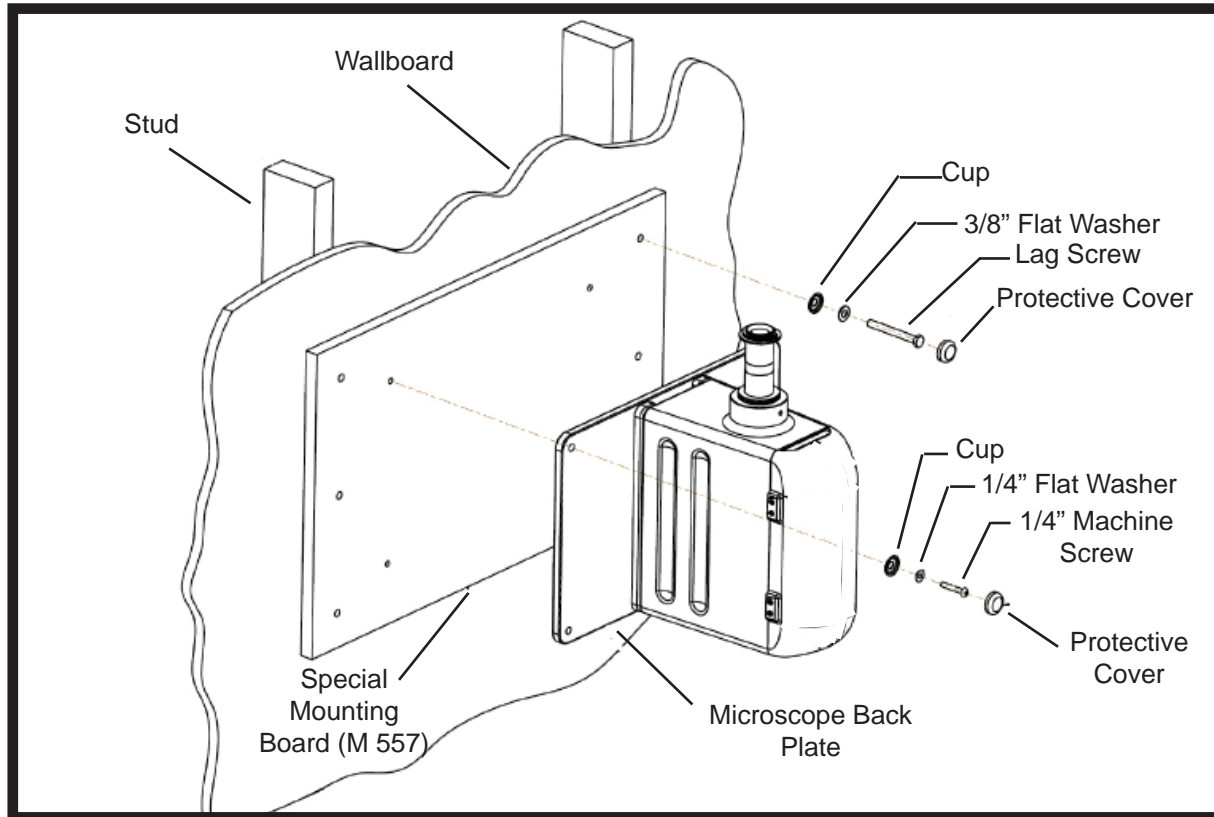
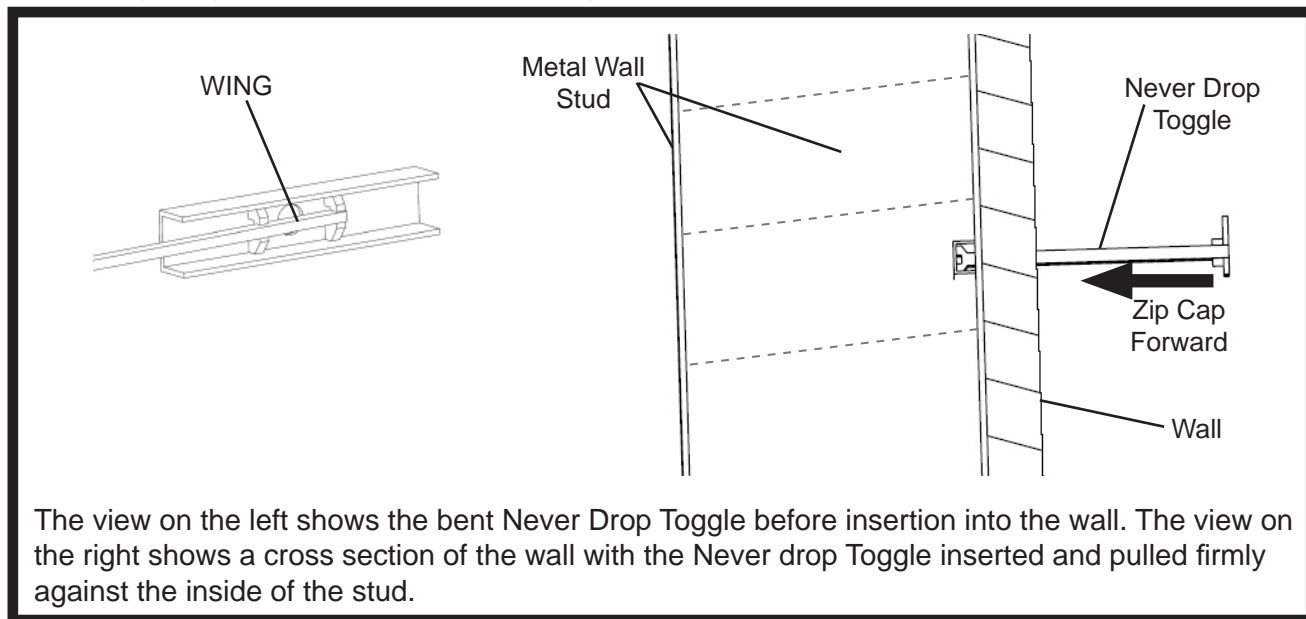

Figure 4-4. Back Plate Spacing on 24" Wooden Studs
Figure 4-5. Never Drop Toggle Insertion
4. Drill a 1/2" (12.5 mm) hole into the wall and stud as marked. To easily do this, drill a progressively larger hole beginning with one (1) 1/8" (3 mm) pilot hole. Next, use a 1/4" (6 mm) drill bit to make the hole larger and finish with a 1/2" (12.5 mm) drill bit.
5. Hold the wing of the Never Drop Toggle flat against the plastic straps, slide through the drilled hole, and pull the plastic until the wing is firmly against the inside of the stud. Slide the plastic cap along the straps until the wall is clamped between the wing and cap, and snap off the straps. Refer to Figure 4-5.
6. Place a flat washer and cup over the 2-1/2" machine screw (provided) and insert the screw through the Wall Mount Board into the Never Drop Toggle. Tighten until snug to hold the Wall Mount Board in place for leveling and marking the remaining seven (7) holes.
7. Place a level across the top and one side of the Wall Mount Board and adjust until level in both directions. With the Wall Mount Board held in place, mark the positions of the remaining seven (7) holes, ensuring that the marks are in the center of the studs. Refer to Step 3.
8. Remove the Wall Mount Board and repeat steps four (4) and five (5) for drilling the holes and placing the Never Drop Toggles in the studs as marked above.
13. Snap the twelve (12) protective covers over all the cups when finished.
If the wall studs are placed on 24" (61.0 cm) centers, it will be necessary to obtain a Special Mounting Board (Global Surgical™ Part Number M 557). The Standard Mounting Plate then mounts to the holes provided on the Special Mounting Board. See Figure 4-4.
3. Using the Special Mounting Board as a guide, mark the positions of the six (6) mounting holes on the wall, ensuring the marks are centered on the studs (See Section 4.2.2. Step 3) and the Special Mounting Board is level both horizontally and vertically. It is recommended that a razor blade or other small, sharp object be used to verify sides of wall stud. This will ensure center is correctly marked. Refer to Figure 4-4.
4. Drill six (6) 1/2" (12.5 mm) holes into the wall and studs as marked. To easily do this, drill progressively larger holes beginning with one (1) 1/8" (3 mm) pilot hole. Next, use the 1/4" (6 mm) drill bit to make the holes larger and finish with the 1/2" (12.5 mm) drill bit.
5. Hold the wing of the Never Drop Toggle flat against the plastic straps, slide through the drilled hole, and pull the plastic until the wing is firmly against the inside of the stud. Slide the plastic cap along the straps until the wall is clamped between the wing and cap, and snap off the straps. Place a Never Drop Toggle in each of the six holes. Refer to Figure 4-5.
6. Place a flat washer and cup over the 2-1/2" machine screw (provided) and insert the screw through the Wall Mount Board and into the Never Drop Toggle. Tighten until snug to hold the Wall Mount Board in place for leveling and repeat for the remaining five (5) holes.